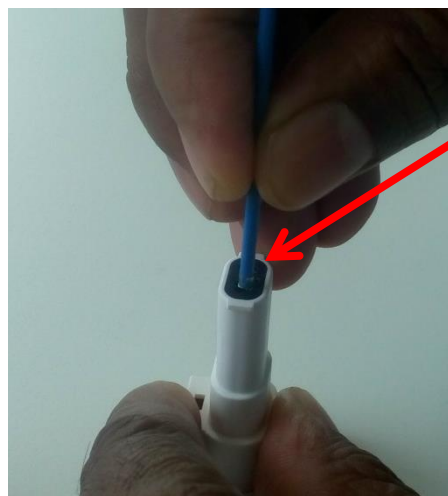

Fig 3
3. Insert the terminal gently into the housing as shown in fig 3. (Change the finger position after initial insertion to press the terminal further inside)